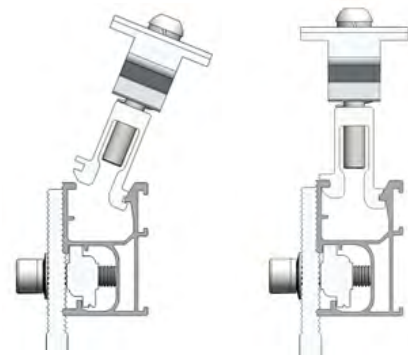

Figure 10
- Step 2: Incline the Universal Clamp to fit the lower channel of clamp against the lower rib of the Rail and press module of the Universal Clamp to click in the rail channel. Please make sure the upper channel of clamp fits against the upper rib of rail as shown in Figure 10.